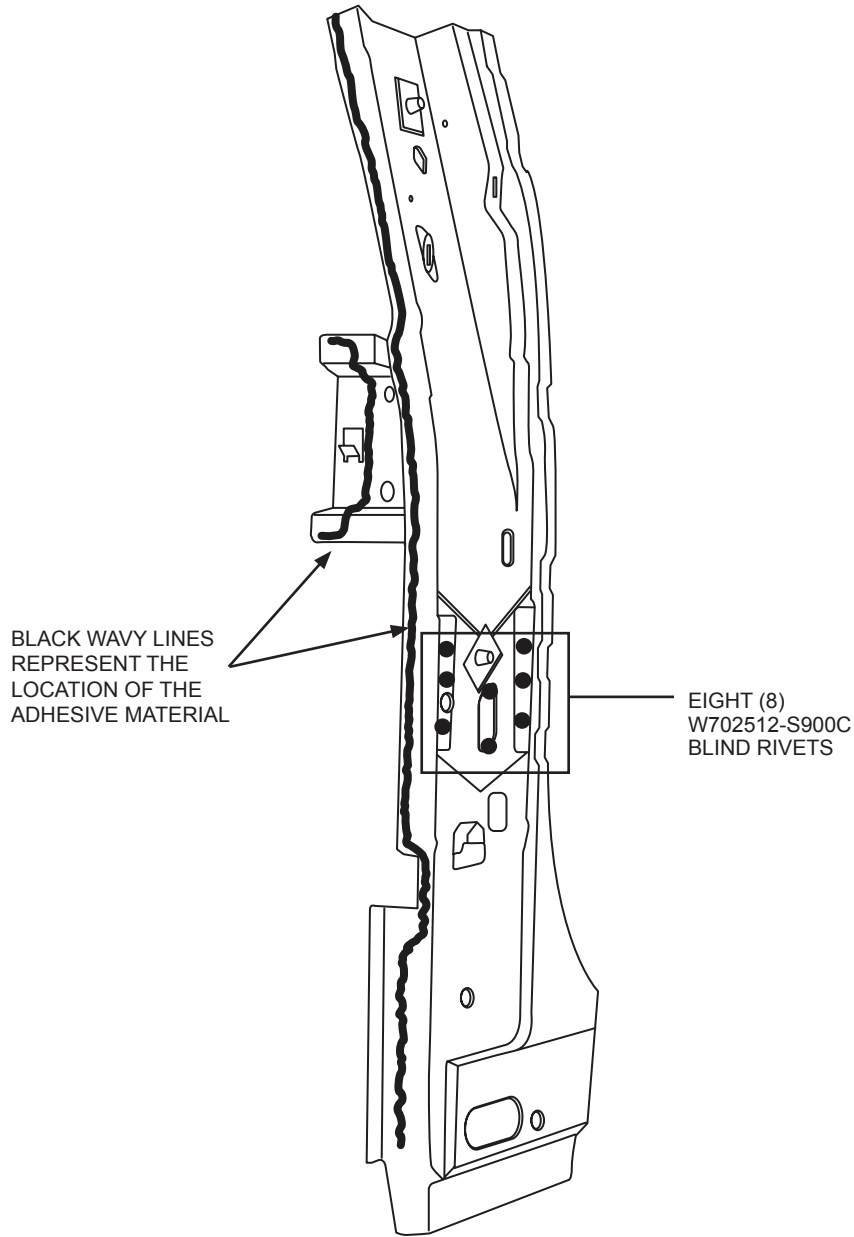

FIGURE 1
- (Refer to Figure 1) for location for adhesive material.